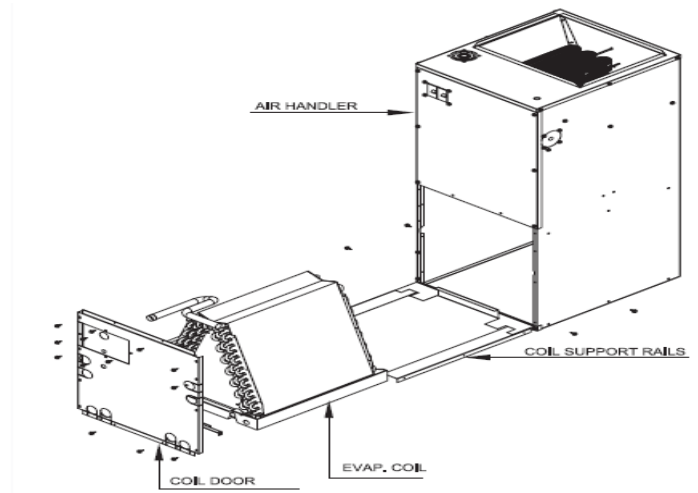

Figure 7: Evaporator Coil Disassembly for conversion to downflow.
The unit is designed to be converted to a downflow configuration. You must use the downflow conversion kit and follow the instructions below. Refer to Figures 7 and 8.
3. Remove evaporator coil assembly with drain pan by sliding out the front of the unit as shown in the Figure 7.
4. Remove 6 screws (3 on each side of unit), securing evaporator coil support rails. Refer to Figure 7.